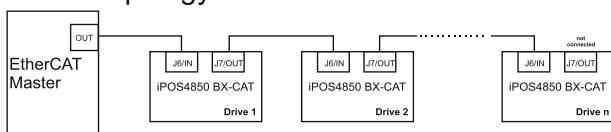

Figure 24. EtherCAT network linear topology
- Linear, when the J7 / OUT port of the last drive in the chain remains not connected. Master is connected to J6 / IN port of the first drive; J7 / OUT of the first drive is connected to J6 / IN of the following drive; J7 / OUT of the last drive remains unconnected. See Figure 24. EtherCAT network linear topology for a visual representation of the linear topology.